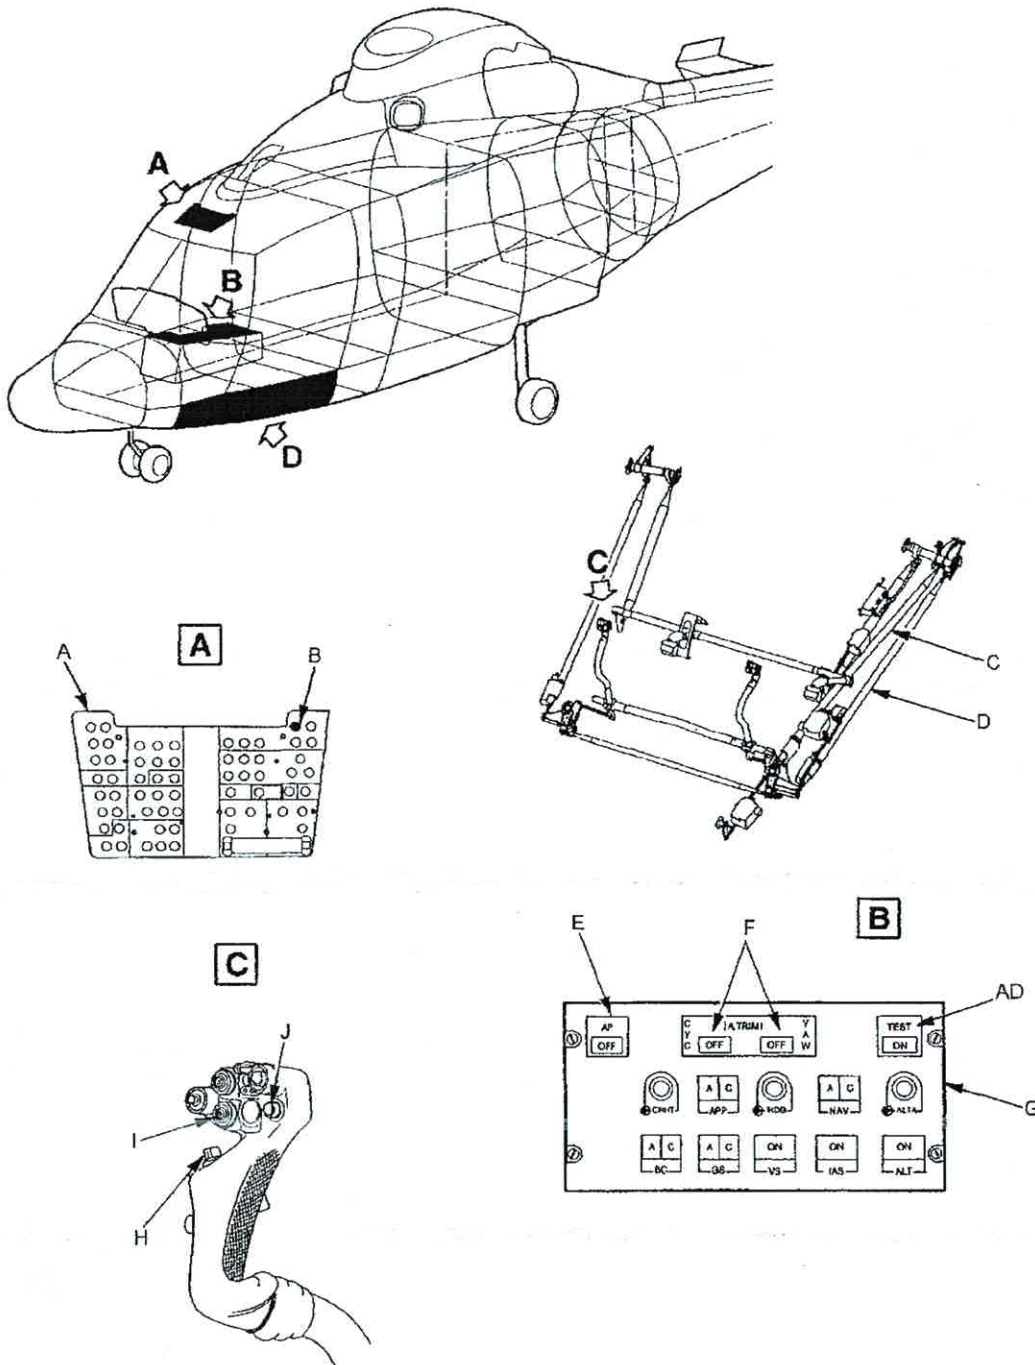

Figure 1
2.B.4. Functional test of pitch series actuator (C) (Figures 1 and 2):
- Make sure that the amber "OFF" light of "AP" pushbutton (E) on APMS control unit (G) comes on.
- Set "TRIM FEEL CYCL" switch (B) on overhead panel 12 ALPHA (A) to "ON".
- Push "AP" pushbutton (E) on APMS control unit (G) to engage the AFCS.
- . Make sure that the "OFF" light of the "AP" (E) pushbutton goes off.
- . Make sure that "A. TRIM CYC" and "A. TRIM YAW" push button lights (F) remain off.
- Move the cyclic stick to the "nose-up" stop position using "TRIM REL" button (H) on the pilot's cyclic stick grip.
- Push "BEEP TRIM" switch (I) to the "nose-down" stop position without applying loads to the cyclic stick.